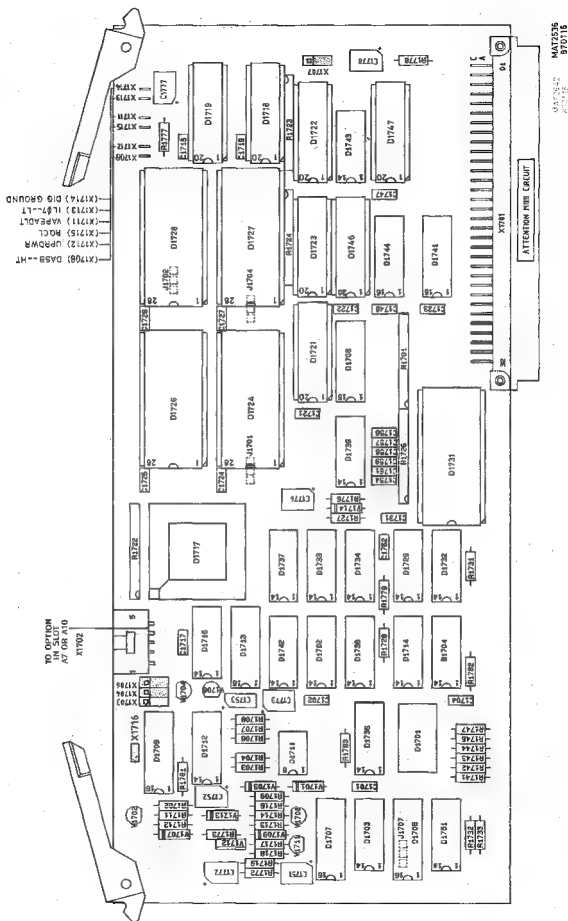

Figure 11.2 Location of service switches.
- Figure 11.2 shows the service switches in normal operation position.